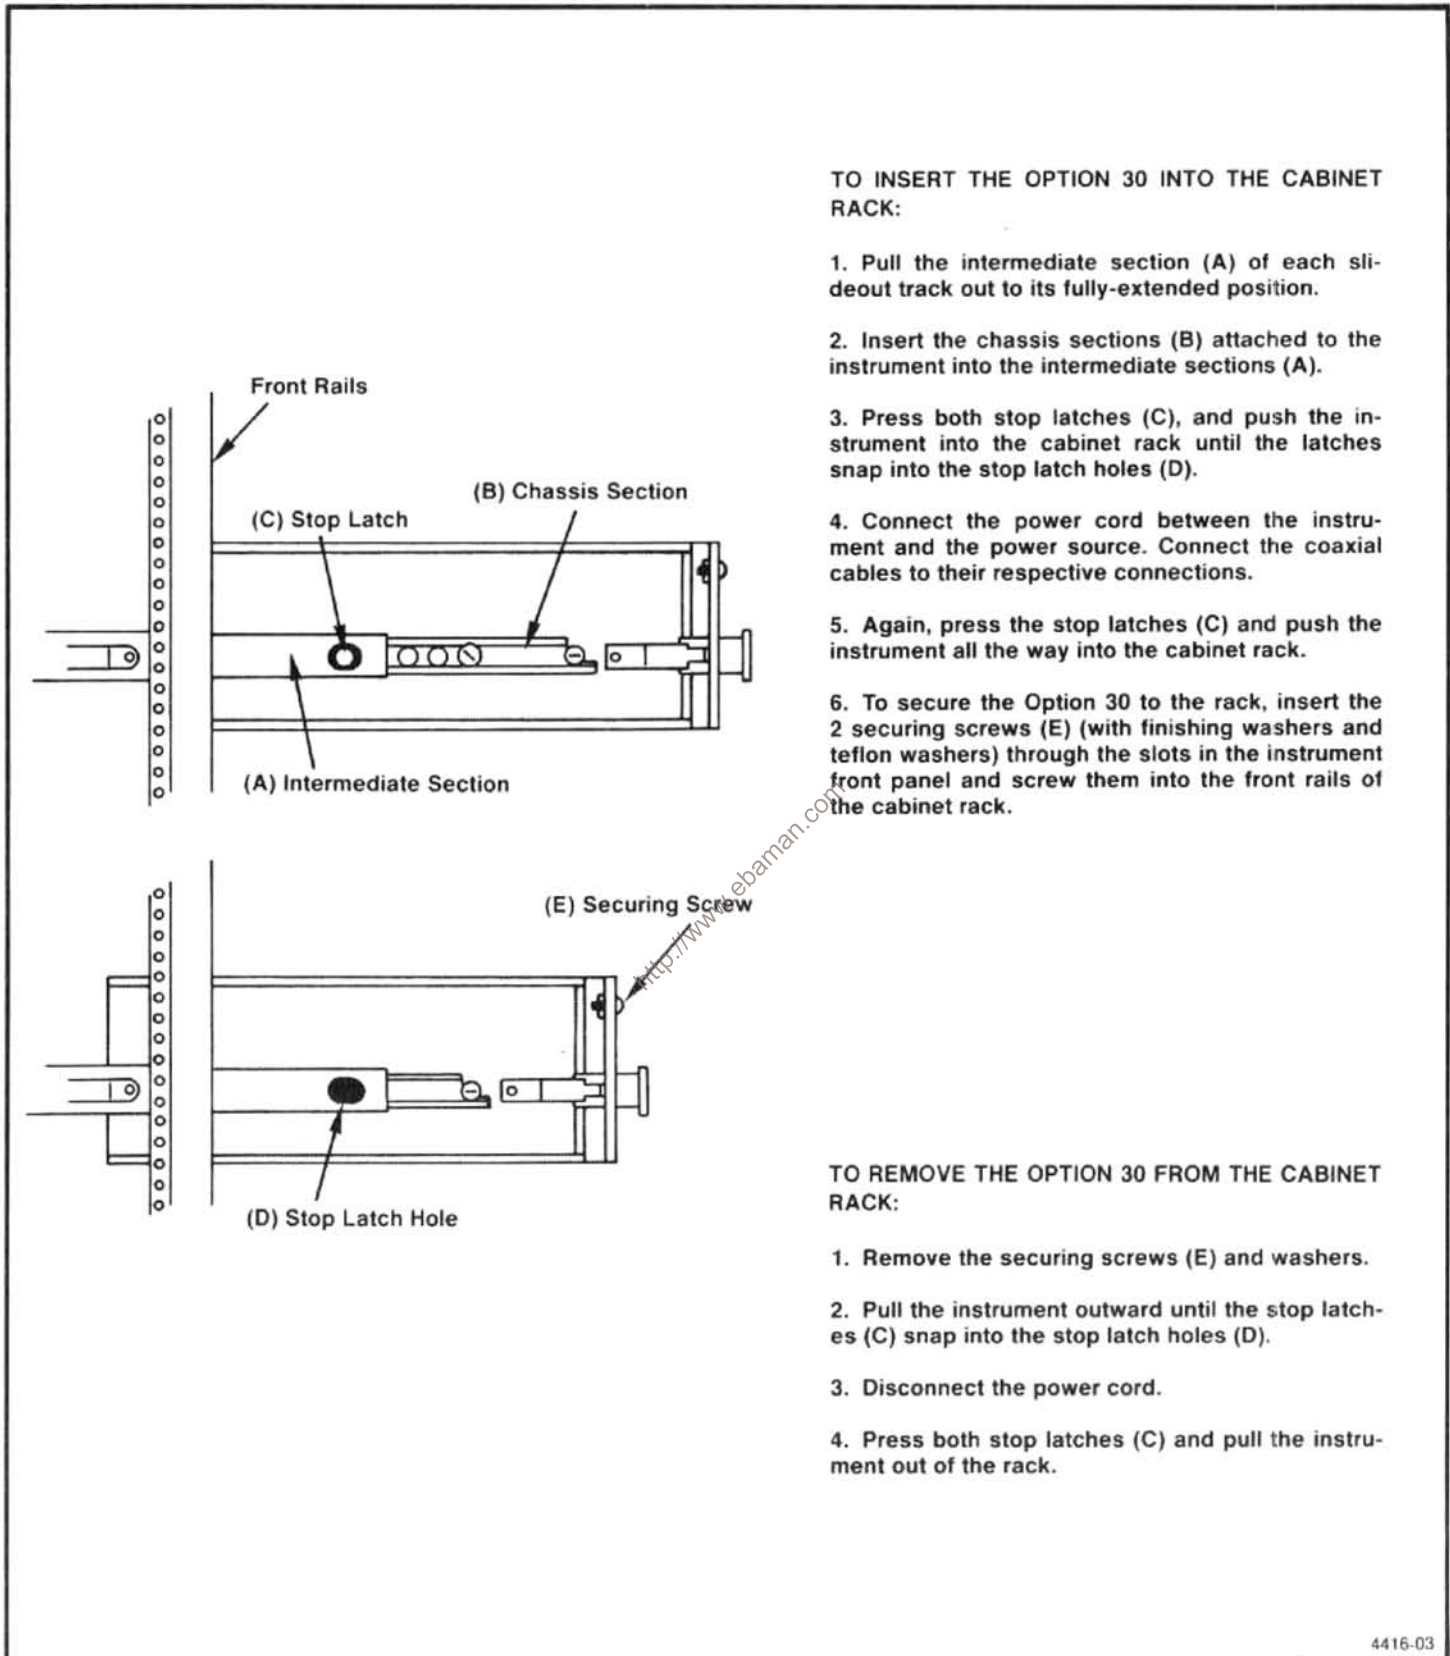

Figure 8-3. Installing and removing Option 30 from the cabinet rack.
- Refer to Figure 8-3 to insert the instrument into the rack. Do not connect the power cord or install the securing screws until all adjustments have been made.
To remove the side, top, or bottom panels from the Option 30 or 31, follow the instructions in Figure 8-3 to remove the instrument from the rack. Then, perform the following procedure.